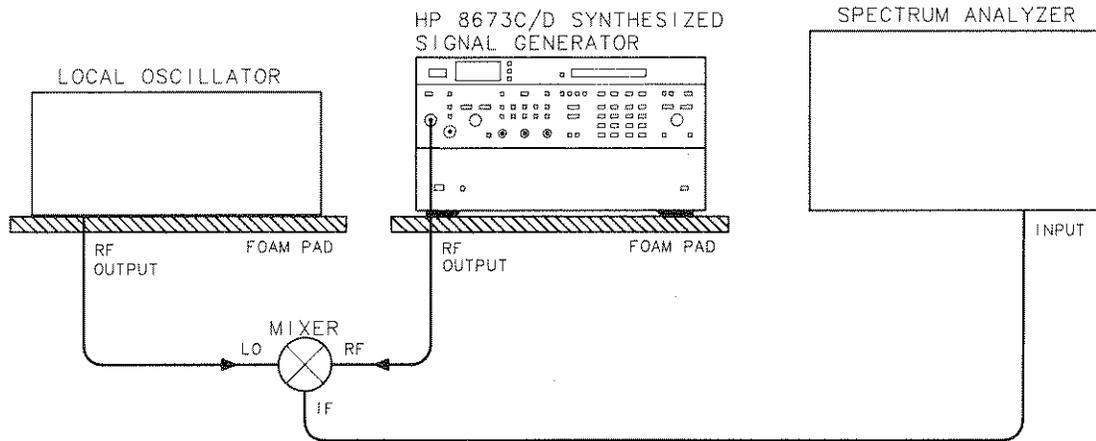

Figure 4-20. Power Line Related Spurious Signals Test Setup
1. Connect the equipment as shown in Figure 4-20.